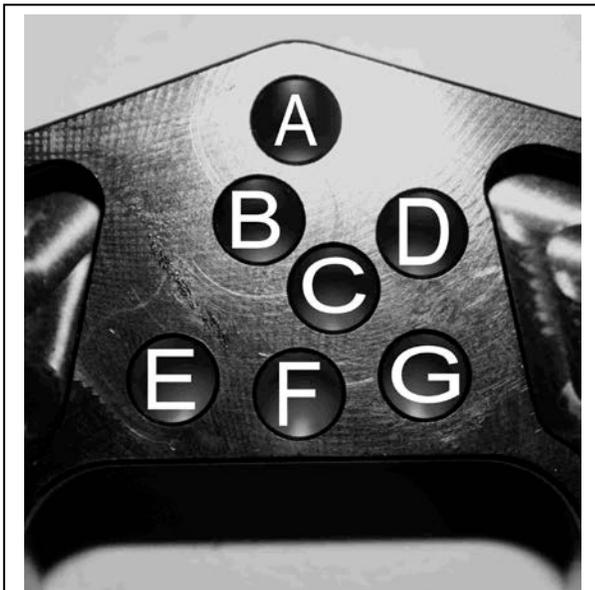
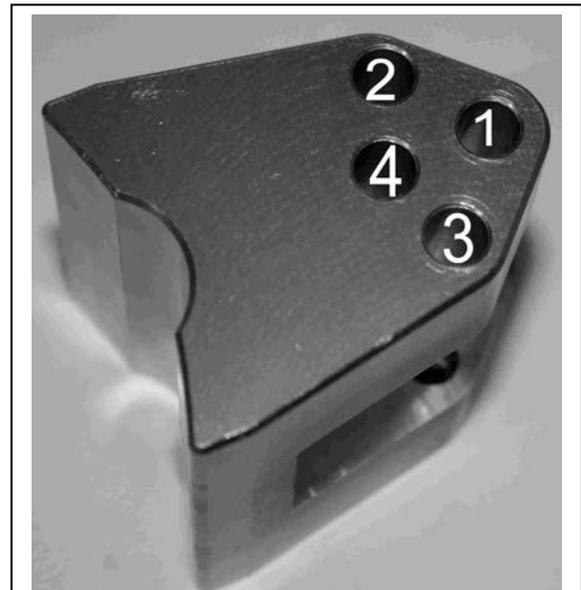

Figure 3
Figure 4
3. Align the letter and number associated with your router (Figures 3 and Figure 4) and reinsert and tighten the $\frac{1}{4}$ - x 1-1/2" Shoulder Bolt you removed in step 2.